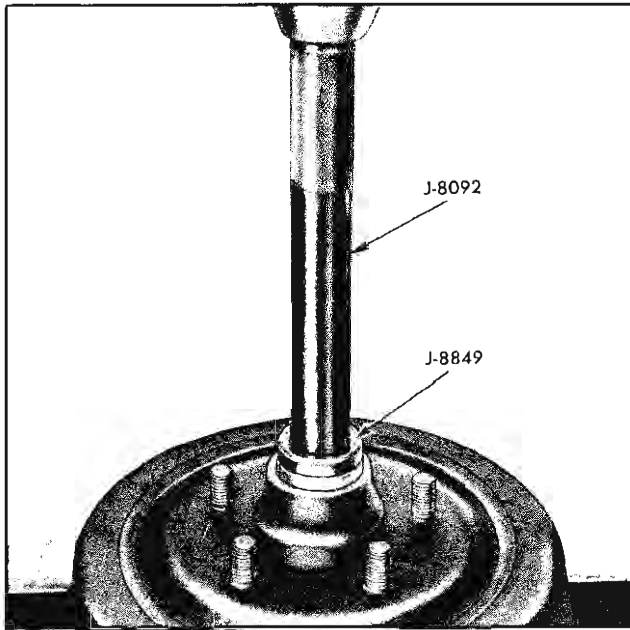
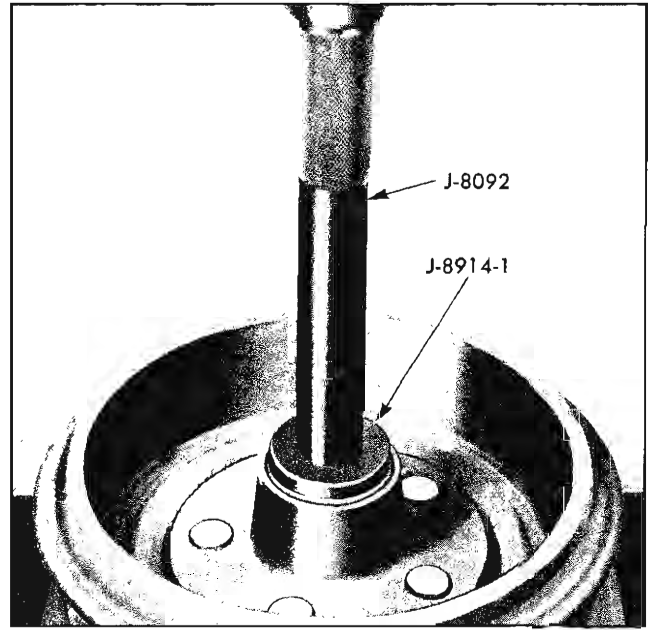

Fig. 3-14 Installing Outer Race in Hub
Fig. 3-15 Installing Inner Race in Hub
3. Install new bearing cup in hub using Tool J-8849 (Fig. 3-14) on the outer race and Tool J-8914 (Fig. 3-15) on the inner race. Tool J-8092 Driver Handle must be used with the above installers.